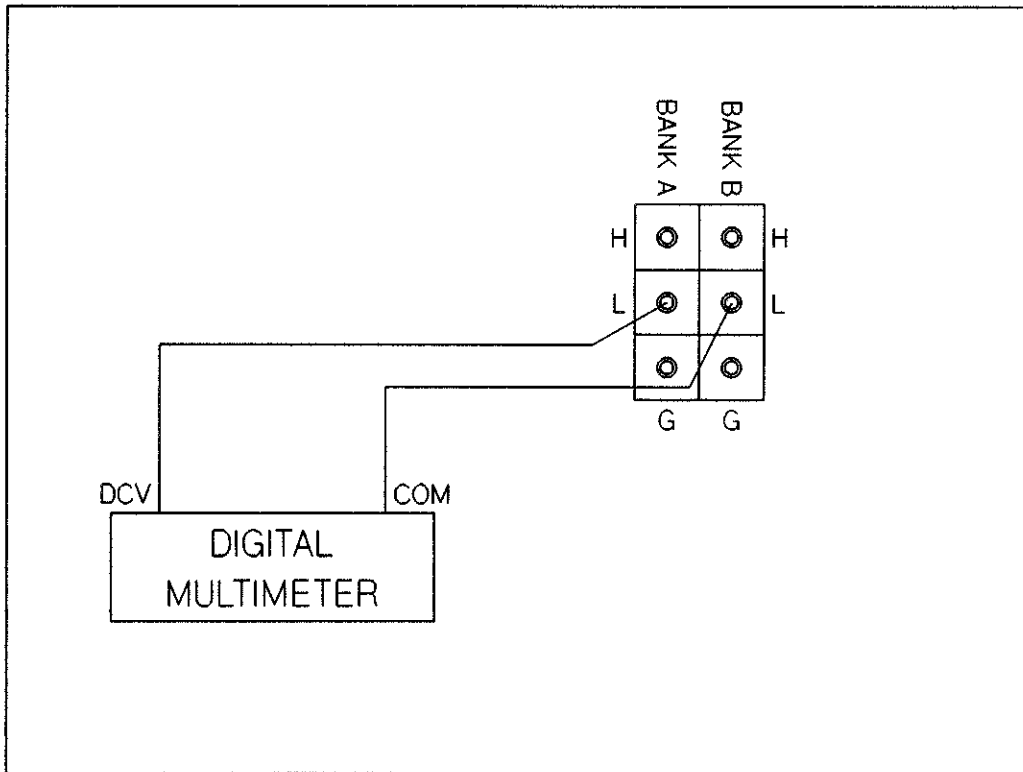

Figure 8-32 HP 44705A/H Source Tree Thermal Offset
25. Connect the multimeter test leads between the Bank A LOW common test point and the Bank B LOW common test point on the test fixture as shown in Figure 8-32.
32. Connect the multimeter test leads between the Bank A LOW common test point and the Bank B LOW common test point on the test fixture as shown in Figure 8-32.